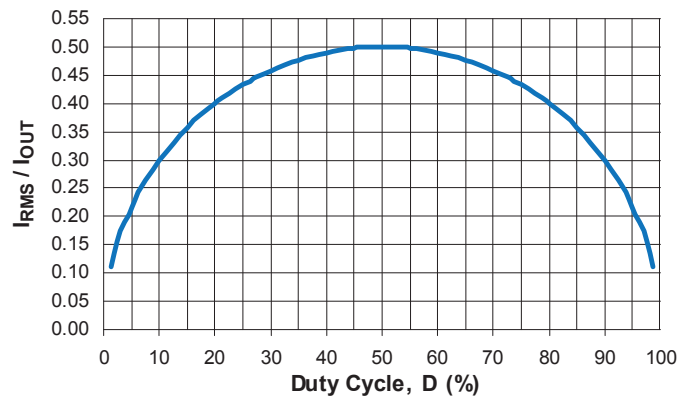

Figure 13: Normalized Input Capacitor Ripple versus Duty Cycle
Figure 13 shows the normalized input capacitor rms current versus duty cycle. To use this graph, simply find the operational duty cycle (D) on the x-axis and determine the input/output current multiplier on the y-axis. For example, at a 20% duty cycle, the input/output current multiplier is 0.40. Therefore, if the regulator is delivering 2.0 A of steady-state load current, the input capacitor(s) must support  $0.40 \times 2.0$  A or 0.8 Arms.